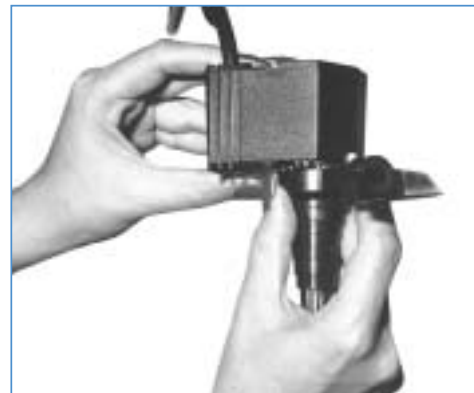
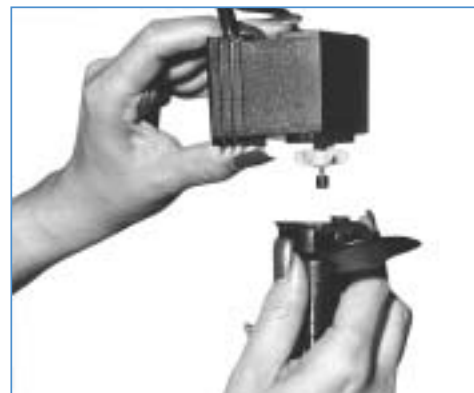

FIGURE 7
FIGURE 8
1. Unplug Power Sponge. Slip unit up and off aquarium frame. Rotate Exhaust Outlet (FIGURE 7) and gently uncouple Impeller Housing from power unit (FIGURE 8).